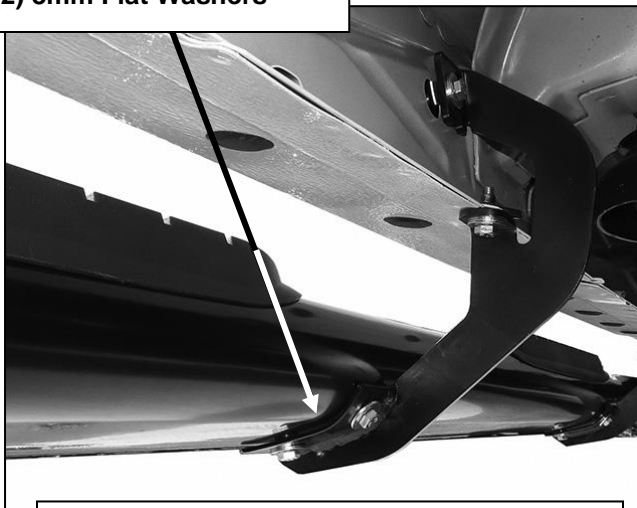

**Fig 16**
10. Line up the side tab on the Lower Bracket with the threaded hole in the side of the Upper Bracket. Attach the Lower Bracket to the Upper Bracket with (1) 8mm x 25mm Hex Bolt, (1) 8mm Lock Washer and (1) 8mm Flat Washer, **(Figure 16)**. Leave loose at this time.
11. Repeat **Steps 1—3** for the (2) remaining passenger side Bracket installations. **NOTE:** Cradles on Brackets installed on passenger side will face forward.